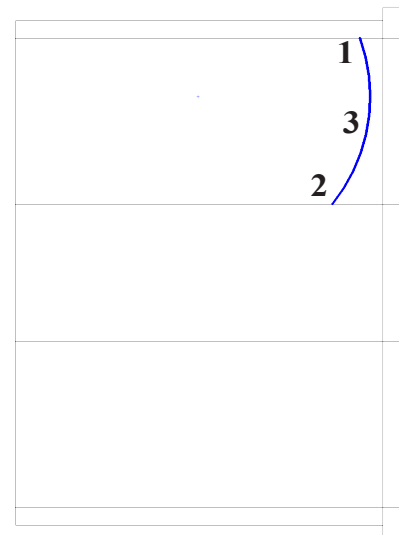

Fig. 9
Step 4. Click **3 Point Arc**  (S) in the Arc flyout  on the Sketch toolbar.
Step 5. Sketch arc between Position 1 on revolve edge, Position 2 on revolve edge and Position 3, **Fig. 9**.